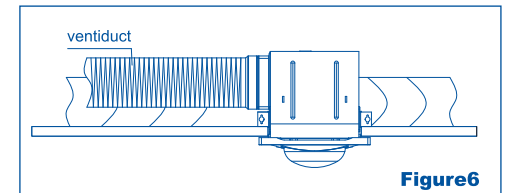

Figure6
3. Fit the in-house end of the duct to the fan outlet of the housing (Figure6). Keep the duct as straight as possible.